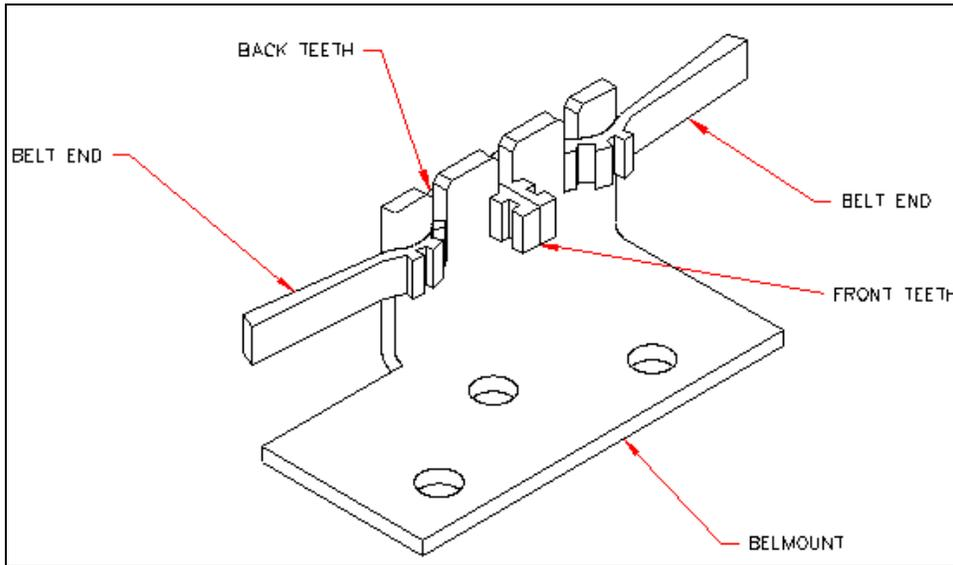

Figure 9-16 Belt Mount
- 1 Cut a 24.7" length of belt (Part No. 40000100) and install it into the belt mount (Part No. 220000790) as shown in Figure 9-16. Make sure that there are two front teeth installed and four back teeth installed.